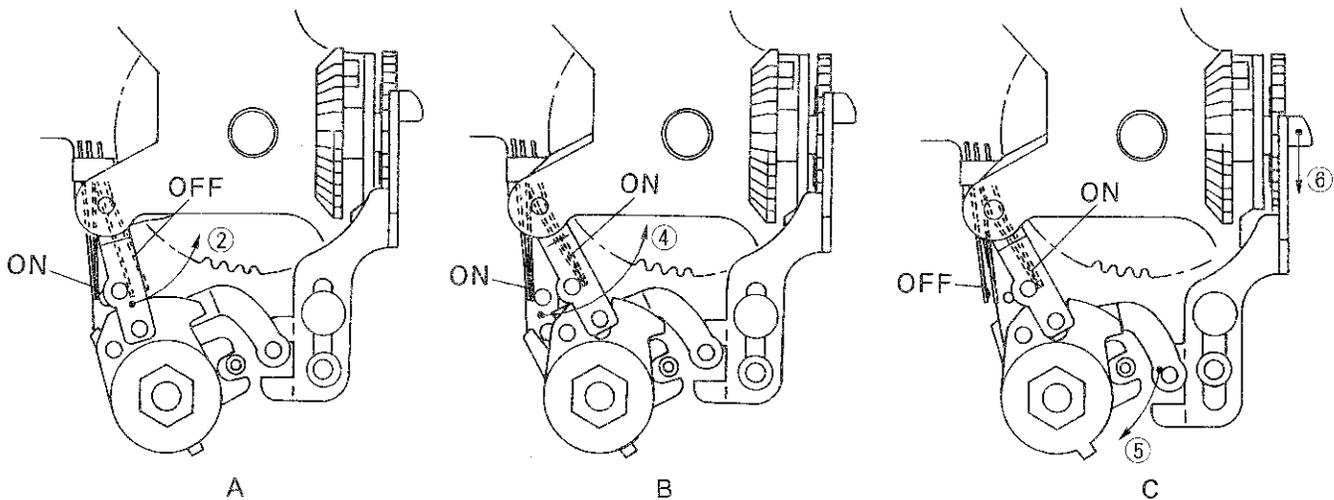

Fig. 25
1. Fig. 25-A shows the synchro contact piece conditions at shutter charge, B at fully open 1st curtain and C at 1st/2nd curtain release respectively. (Operation is performed in the order of ② ④ ⑤ and ⑥.)